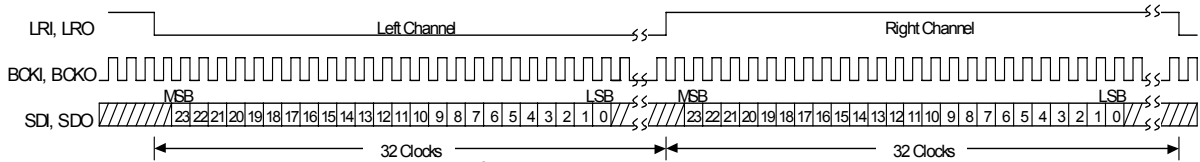
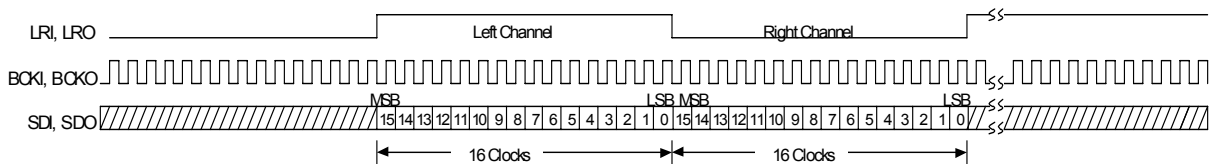

Fig.5-1 I²S Data Format 64fs, 24bit Data
Fig.5-12 Right-Justified Data Format 32fs, 16bit Data
The NJU26040 Series can use three kinds of formats hereafter as industry-standard digital audio data format; (1) I²S (2) Left-Justified (3) Right-justified and 16 / 18 / 20 / 24bits data length. (Fig.5-1 to Fig5-12)